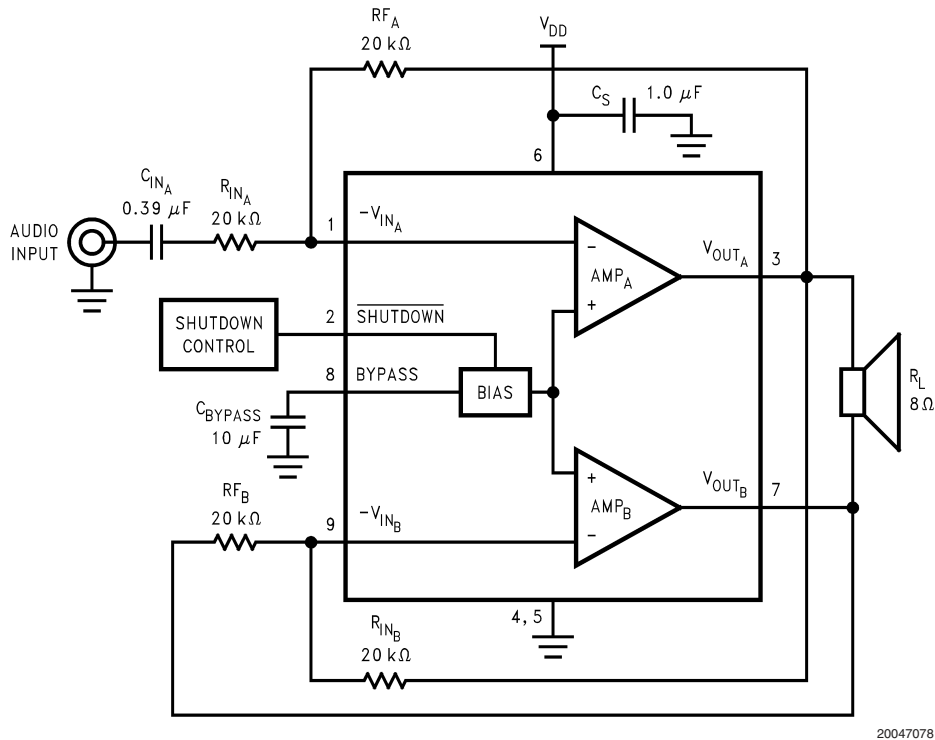

FIGURE 3. Typical LM4950 BTL Application Circuit
As shown in *Figure 3*, the LM4950 consists of two operational amplifiers that drive a speaker connected between their outputs. The value of external input and feedback resistors determine the gain of each amplifier. Resistors R_{IN_A} and R_{F_A} set the closed-loop gain of AMP_A , whereas two 20kΩ resistors set AMP_B 's gain to -1. The LM4950 drives a load, such as a speaker, connected between the two amplifier outputs, V_{OUT_A} and V_{OUT_B} . *Figure 3* shows that AMP_A 's output serves as AMP_B 's input. This results in both amplifiers producing signals identical in magnitude, but 180° out of phase. Taking advantage of this phase difference, a load is placed between AMP_A and AMP_B and driven differentially (commonly referred to as "bridge mode"). This results in a differential, or BTL, gain of
As shown in Figure 3, the input resistor (R_{IN}) and the input capacitor (C_{IN}) produce a high pass filter cutoff frequency that is found using Equation (7).
As an example when using a speaker with a low frequency limit of 50Hz, C_i , using Equation (7) is 0.159 μ F. The 0.39 μ F C_{INA} shown in Figure 3 allows the LM4950 to drive high efficiency, full range speaker whose response extends below 30Hz.